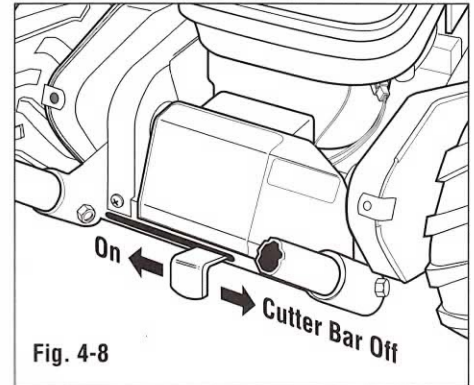
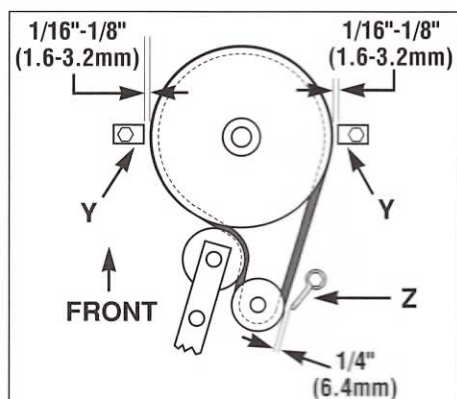

Fig. 4-8
Fig. 5-5
3. Move the cutter bar lever (Fig. 4-8) all the way to the left, to the ON position.
5. Move the cutter bar lever to the ON position (Fig. 4-8). The unit should begin vibrating, which is normal, and the cutter blade will move rapidly from side to side.
2. Put the cutter bar lever in the OFF position (Fig. 4-8). Reach up underneath the unit and remove the belt from the small lower pulley (Fig. 5-5).
4. Install the new belt (A) as indicated in Fig. 5-5.
2. Place the belt under tension (Fig. 5-5.) by moving the cutter bar lever to the ON position.
3. Adjust the front belt guides (Y) 1/16" — 1/8" (1.6—3.17 mm) away from belt and
5. Adjust the right rear belt guide (Z) 1/4" (6.35 mm) from the belt.